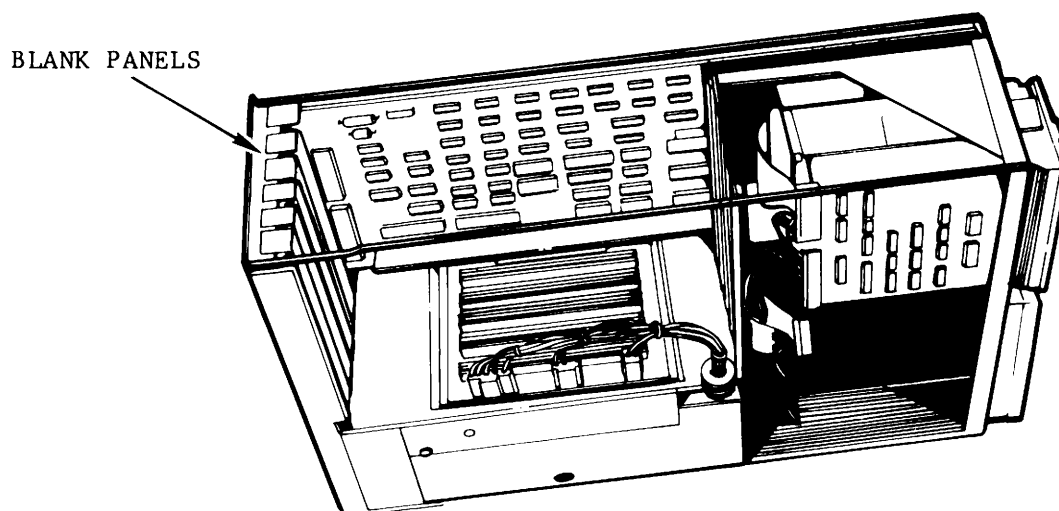

Figure 4-37. Electronics Unit Vertical Position
- 3) Move the cover off to one side of your work area and position the Electronics Unit into the vertical position as shown in Figure 4-37.